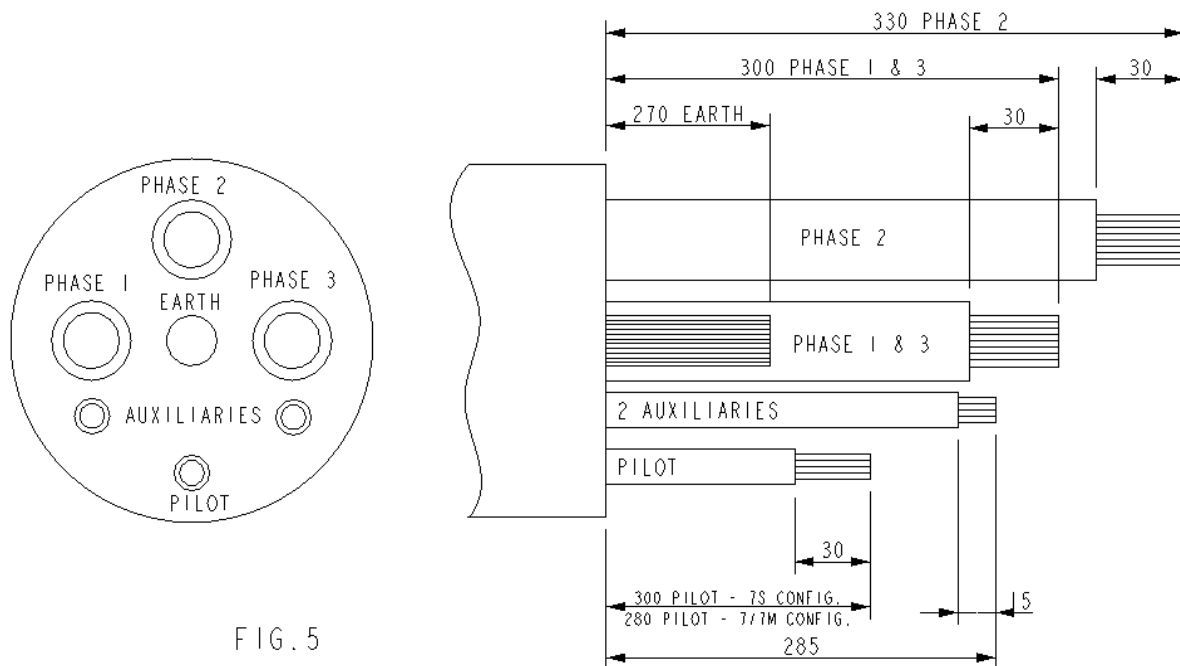

FIG. 5
5. As shown in Fig.5 remove 330mm from the outer sheath, unravel the screening around each of the main conductors and spilt into 2 bunches.
6. Make off the 3 phase, the 2 auxiliaries, the pilot and earth as Fig.5. It is advisable to wrap insulating tape around the bare conductors to stop them from splaying out when being fed through the gland and plug body.